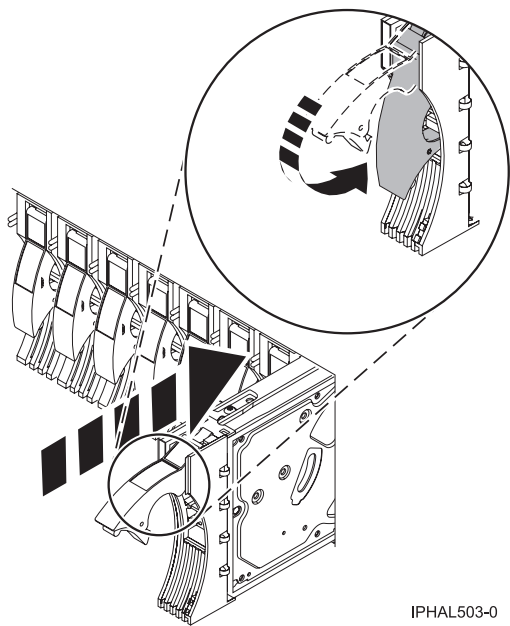

Figure 40. Installing a disk drive in a model
8. Push the disk drive handle in until it locks, as shown in Figure 40 on page 56.